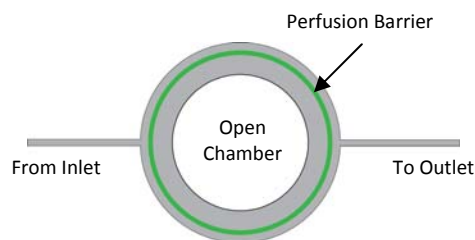
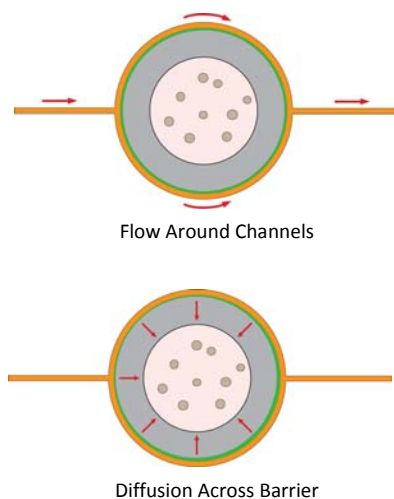

Figure 2. Culture Chamber
Figure 3. Perfusion Flow and Diffusion
14. The array uses gravity driven perfusion to feed the cells. A perfusion barrier (figure 2) surrounds the cell/gel chamber. The 4  $\mu\text{m}$  pores of the barrier allow free diffusion from the flow channels (figure 3). It takes approximately 0.5-1 hour for a new solution to diffuse into the culture chamber during perfusion.